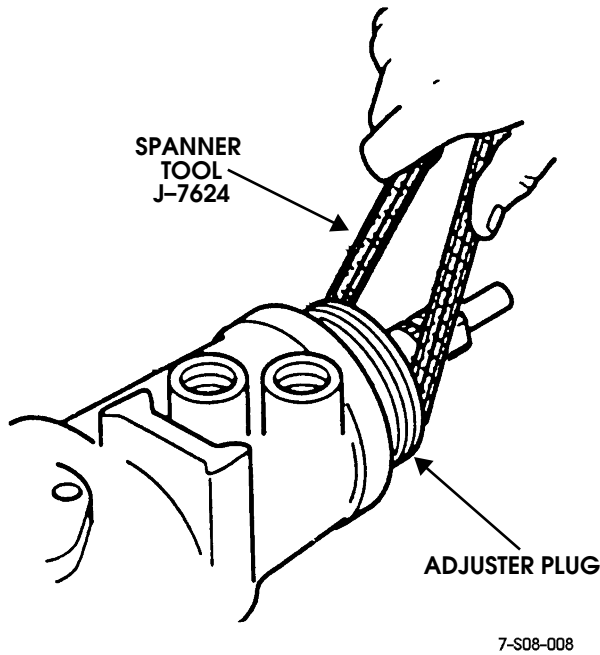

Figure 8-35: Adjuster Plug Removal
2. Remove adjuster plug from housing with spanner wrench J-7624 (Figure 8-35).